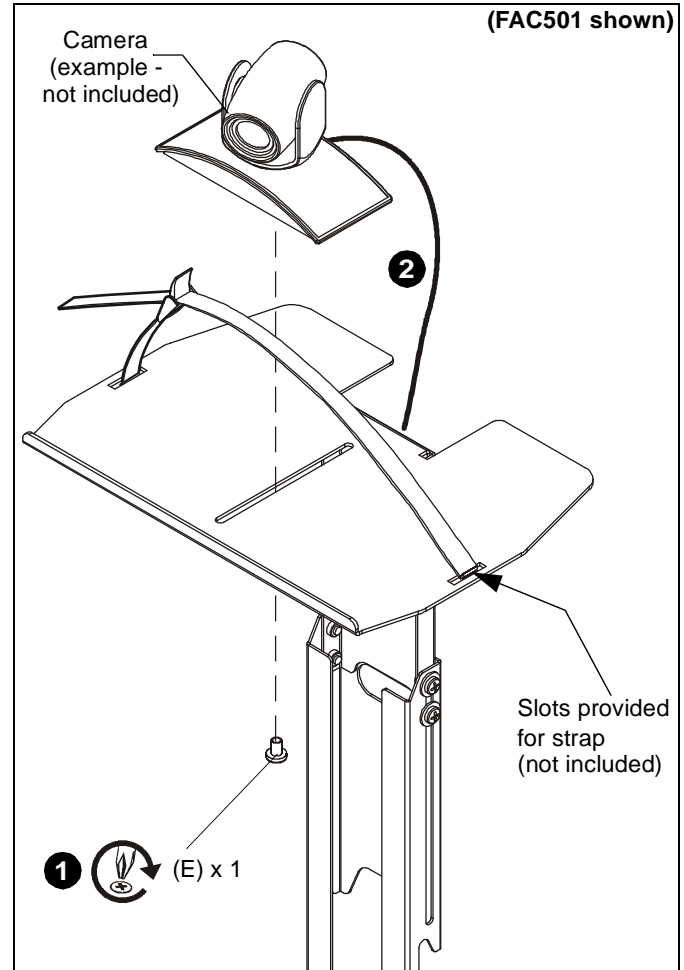

Figure 5
NOTE: OPTIONAL: Slots are provided in shelf for strap (not included) to hold component in place. (See Figure 5)
1. Install 1/4-20 x 3/8" Phillips pan machine screw (E) through mounting slot on shelf and into hole on bottom of camera (not included). (See Figure 5)
2. Route cable from camera towards back of shelf and down behind the FCA501/502/503. (See Figure 5)